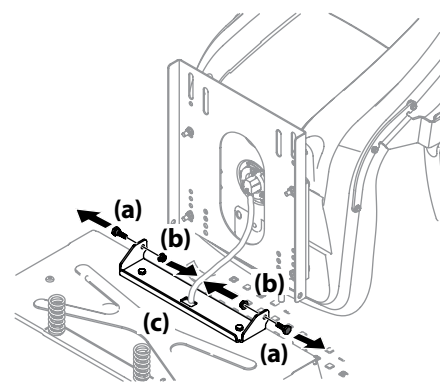

Figure 2-3
2. Remove the two shoulder screws (a) and flange lock nuts (b) in the seat bracket (c) as shown in Figure 2-3.